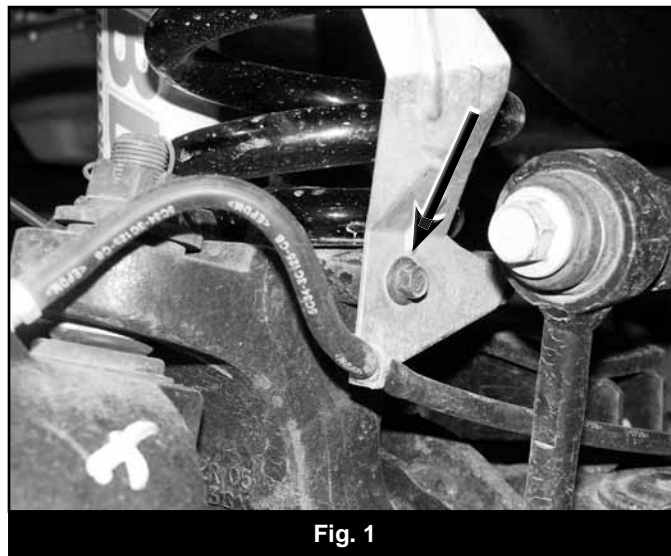

Fig. 1
6. Disconnect the front brake line brackets from the axle (Fig 1). Retain hardware.